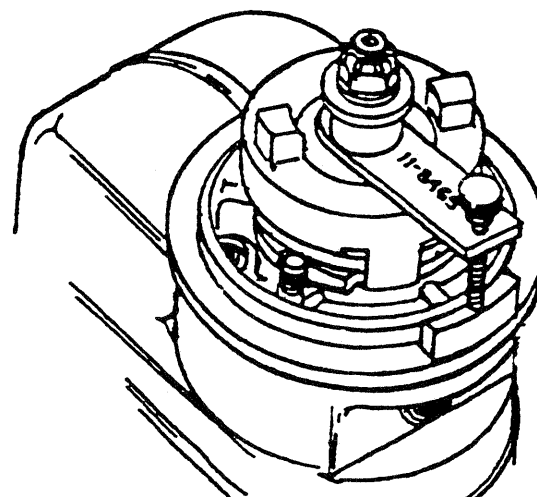

Figure 917. Rotor Holding Tool Installed
- A. Position 11-8465 rotor holding tool onto rotor (54). Use bushings, washers and nut as necessary to hold tool securely on rotor. See Figure 917.